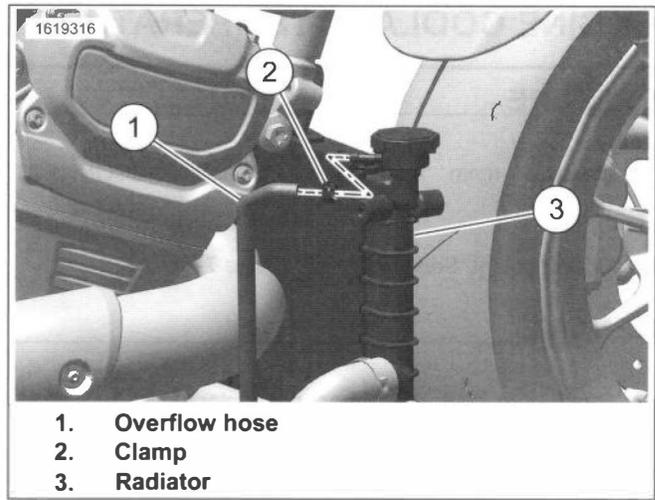
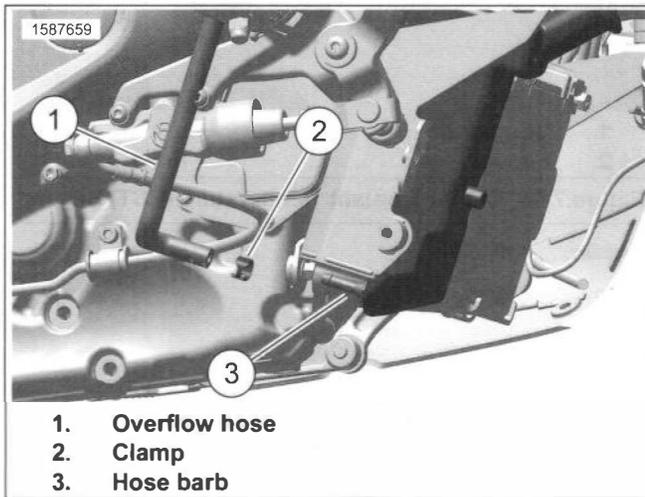

Figure 7-17. Upper Hose Connection
Figure 7-16. Lower Hose Connection
1. See Figure 7-17. Disconnect coolant overflow hose, upper connection.
- a. Detach clamp (2).
- b. Detach overflow hose (1).
2. See Figure 7-16. Disconnect coolant overflow hose, lower connection.
1. See Figure 7-16. Attach coolant overflow hose, lower connection.
- a. Clean hose barb (3). Clean inside of overflow hose end.
- b. Install overflow hose (1).
- c. Secure with clamp (2).
2. See Figure 7-17. Attach coolant overflow hose, upper connection.